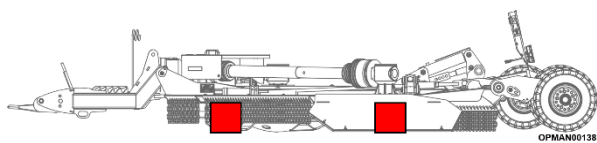

Figure 5.65
5.6.3.4 Fully support the centre and wing decks of the machine with fixed stands or substantial blocks; see Figure 5.65.